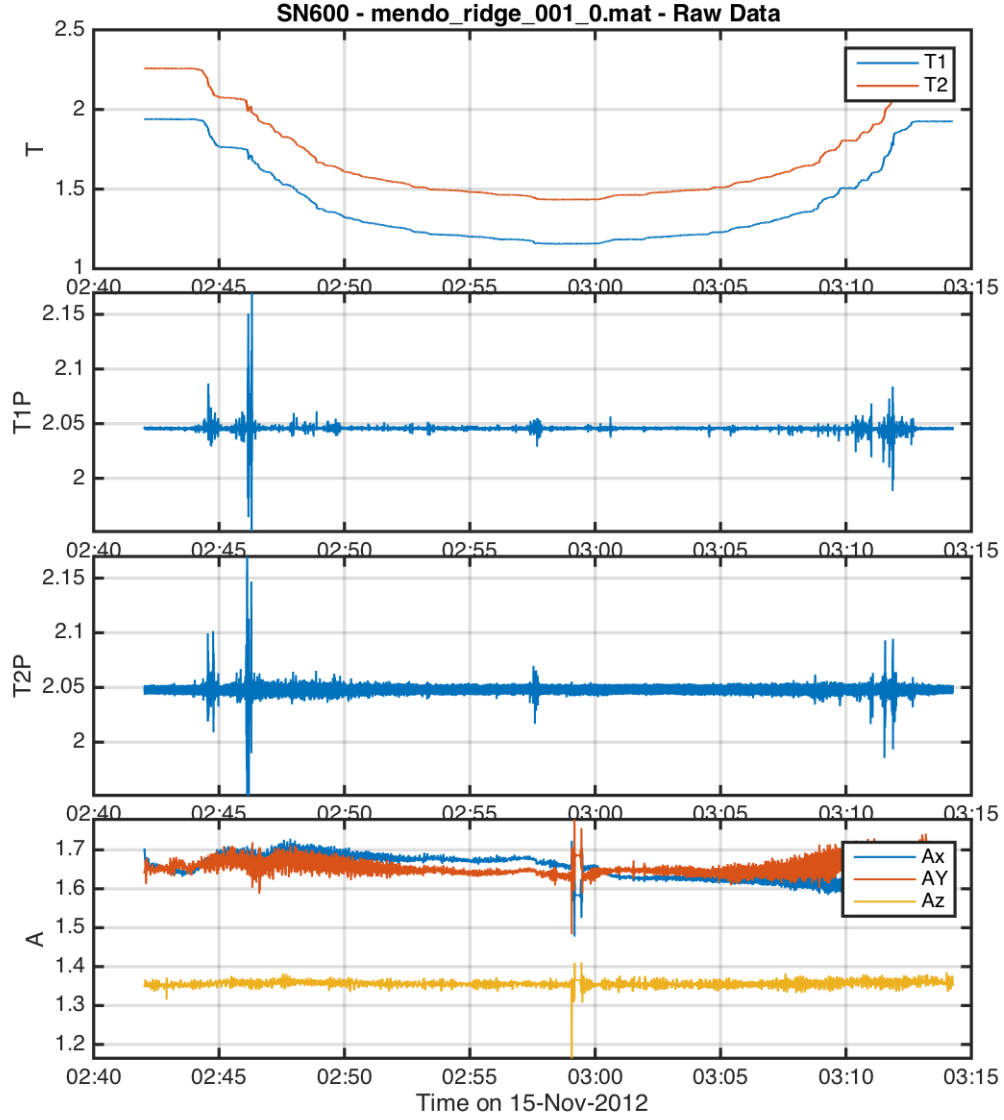

Figure 1: Time-series of raw χ pod data for one cast.
- `cast_001_RawChipodTS` (Figure 1).